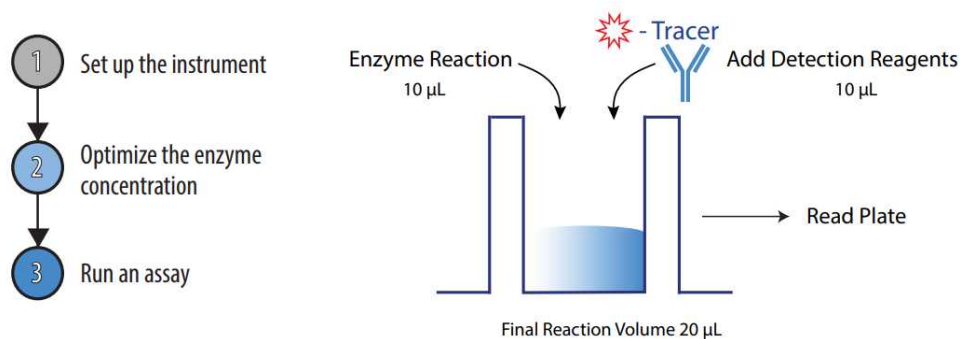

Figure 2. An outline of the procedure. The procedure consists of 3 main steps with a mix-and-read assay format.
- 4 The Transcreener® cGAMP cGAS FP Assay protocol consists of 3 steps (**Figure 2**). The protocol was developed for a 384-well format, using a 10 μ L enzyme reaction and 20 μ L complete assay volume when the plates are read. The use of different densities or reaction volumes will require changes in reagent quantities (see **Section 7.2** for example reaction volumes). Once the instrument parameters and enzyme optimization are complete, the assay itself consists of a single step, simply add detection reagents to your enzyme reaction and read the plate.